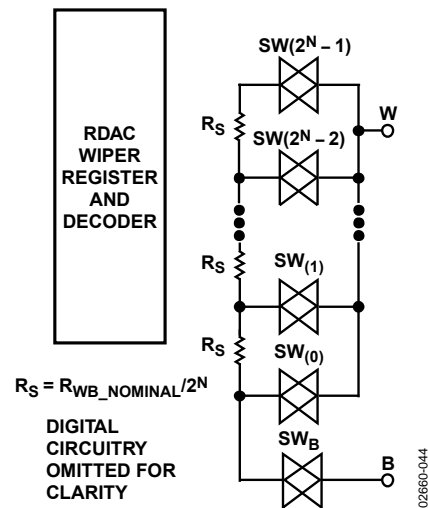

Figure 32. Equivalent RDAC Structure
The RDAC contains multiple strings of equal resistor segments with an array of analog switches that acts as the wiper connection. The number of positions is the resolution of the device. The ADN2850 has 1024 connection points, allowing it to provide better than 0.1% setability resolution. Figure 32 shows an equivalent structure of the connections among the three terminals of the RDAC. The SWB is always on, while the switches, SW(0) to SW(2N - 1), are on one at a time, depending on the resistance position decoded from the data bits. Because the switch is not ideal, there is a 30  $\Omega$  wiper resistance, RW. Wiper resistance is a function of supply voltage and temperature. The lower the supply voltage or the higher the temperature, the higher the resulting wiper resistance. Users should be aware of the wiper resistance dynamics, if accurate prediction of the output resistance is needed.
The first connection of the wiper starts at Terminal B for Data 0x000.  $R_{WB}(0)$  is 30  $\Omega$  because of the wiper resistance, and it is independent of the nominal resistance. The second connection is the first tap point where  $R_{WB}(1)$  becomes 24.4  $\Omega$  + 30  $\Omega$  = 54.4  $\Omega$  for Data 0x001. The third connection is the next tap point representing  $R_{WB}(2)$  = 48.8  $\Omega$  + 30  $\Omega$  = 78.8  $\Omega$  for Data 0x002, and so on. Each LSB data value increase moves the wiper up the resistor ladder until the last tap point is reached at  $R_{WB}(1023)$  = 25006  $\Omega$ . See Figure 32 for a simplified diagram of the equivalent RDAC circuit.